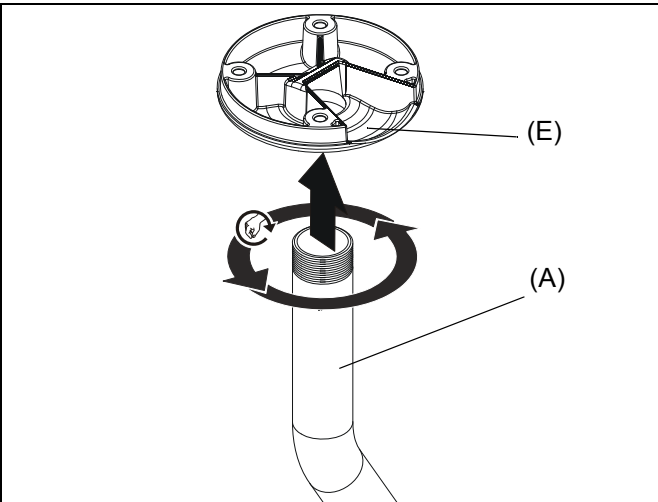

Figure 3
4. Thread the tube assembly (A) onto CMS-115 ceiling plate (E). (See Figure 3)